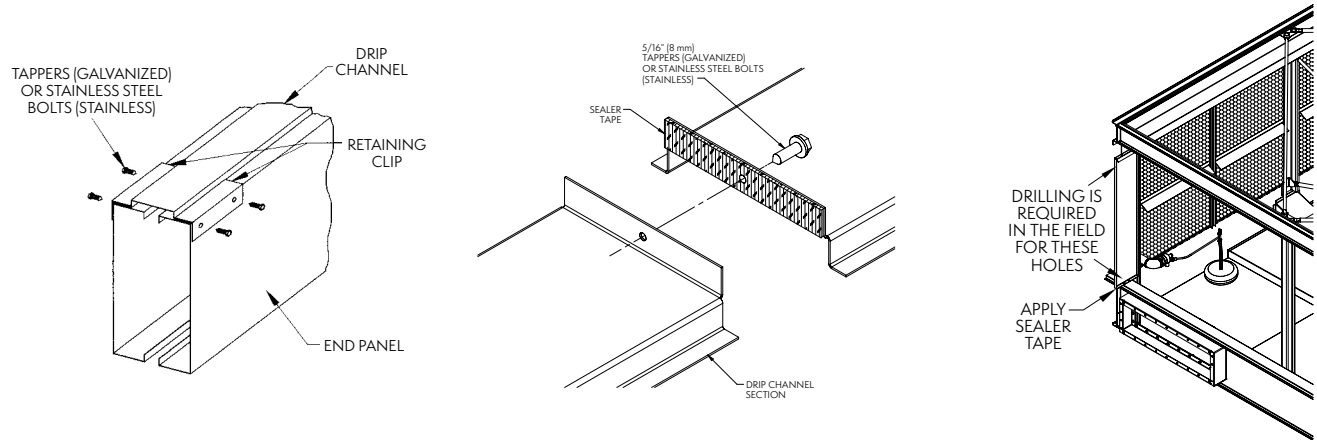

Figure 3b — Drip Channel and Vertical Splash Guard Installation
11. Once the bottom of the vertical splash guard has been attached to the drip channel, place the filler cap channel in the upper flanges of the bottom section as shown in **Figure 3b**. Attach to vertical splash guards using 5/16" (8mm) tappers (for galvanized units) or stainless steel nuts and bolts (for stainless steel units).